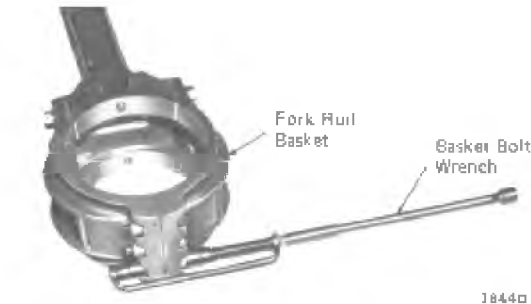

Fig. 5-7 - Basket Bolt Wrench Application
34. Remove the lower basket bolts and nuts using the spring-loaded basket bolt wrench, Fig. 5-7. with a ratchet and extension.
20. Remove the lower basket bolts and nuts using the spring-loaded basket bolt wrench, Fig. 5-7, with a ratchet and extension.